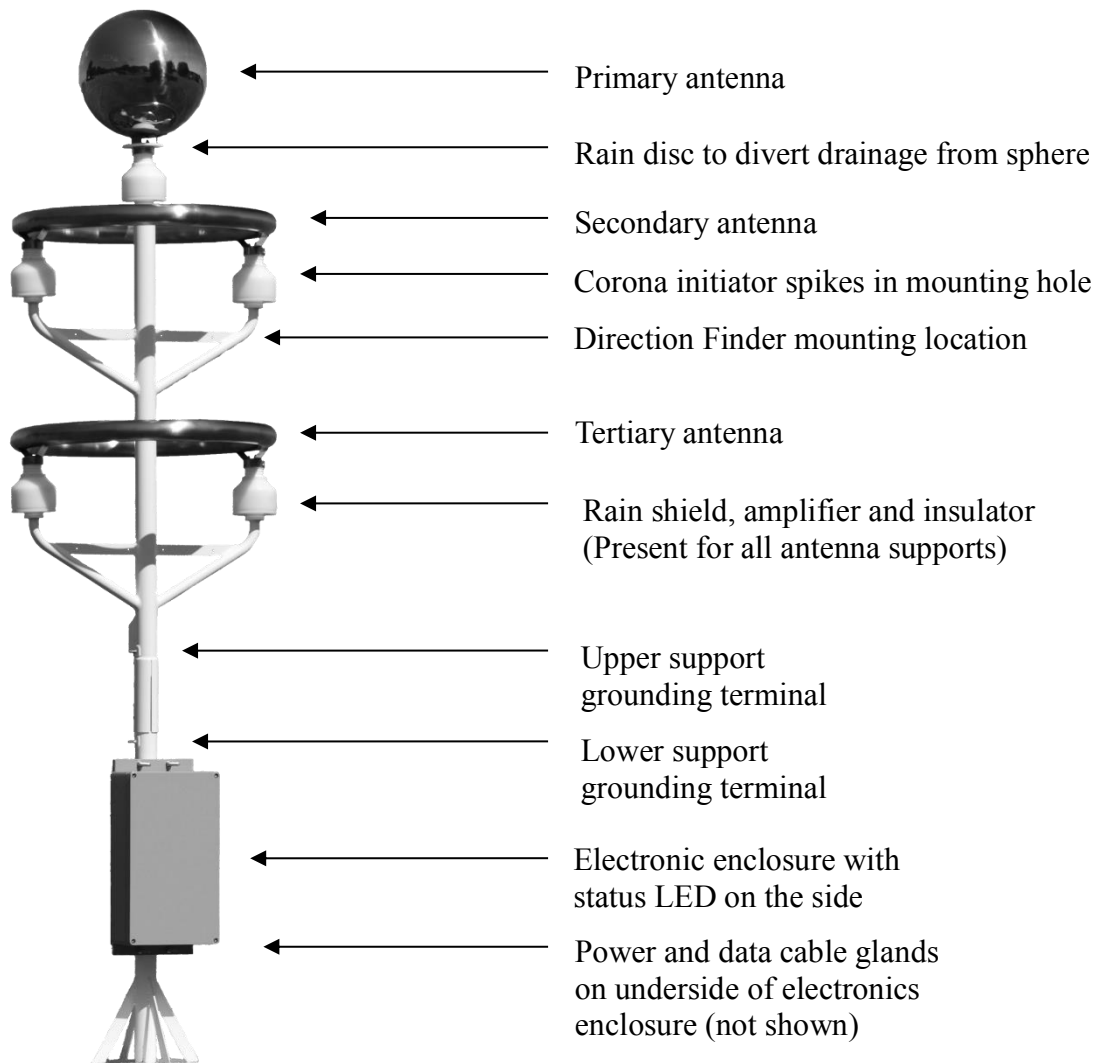

Figure 1: Main components of the BTD-300.
The main components of the BTD-300 are shown in Figure 1. The sensor uses three antennas kept electrically isolated from the ground by heated weatherproof insulators, allowing induced currents from distant lightning of less than 1nA to be detected during all weather conditions. Heaters are present inside all 5 insulators and each antenna has a gas discharge unit to ground to protect the amplifier from current surges associated with very close
- **Lead Lengths:** No. 6 AWG solid copper wire should be used to connect the instrument (and thus the transient voltage suppressers) to the ground rod. Use the shortest and most direct paths to the ground. Simply connect the ground lead to the lower of the two grounding terminals provided (see Figure 1 for grounding terminal location). Ensure that the grounding terminals on the upper and lower parts of the mounting pole are joined with the earth link provided with the equipment.